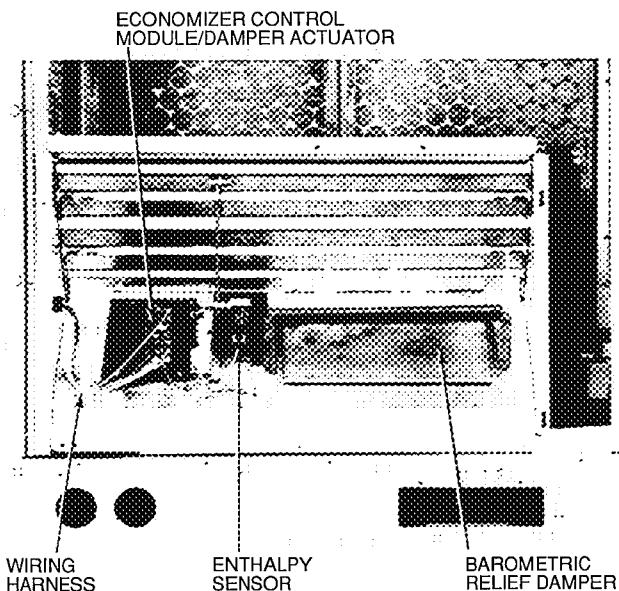

Fig. 23 – PARABLADE Economizer Installed in Unit
5. Slide economizer into unit and secure with screws. See Fig. 23.
6. Insert economizer plug into economizer harness. Remove tape from barometric relief damper. See Fig. 23.